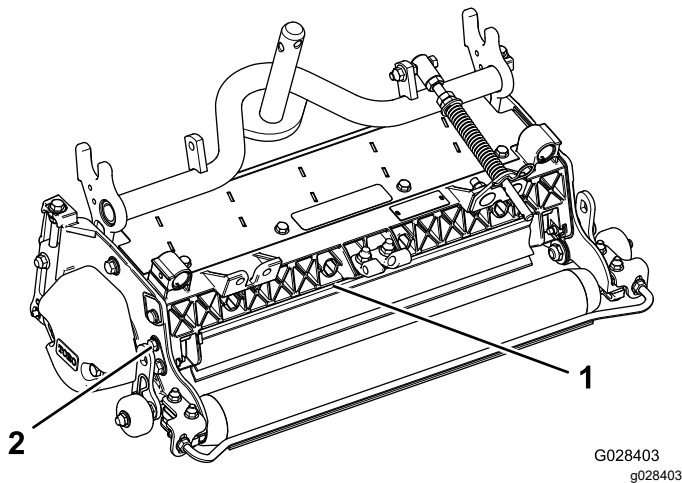

Figure 10
1. Loosen the bolts on the pivot of the grass shield (Figure 10).
2. Rotate the grass shield to the desired setting, and tighten the bolts (Figure 10).